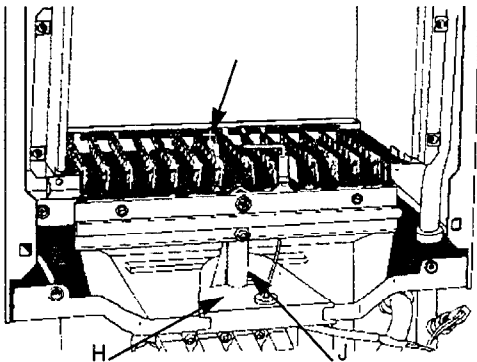

Fig. 46
- d) Feed cable up through gas section (H) removing grommet (J) (see fig. 46),
Fig. 46 a
- d) Feed cable up through gas section (H) removing grommet (J) (see fig. 46 a),